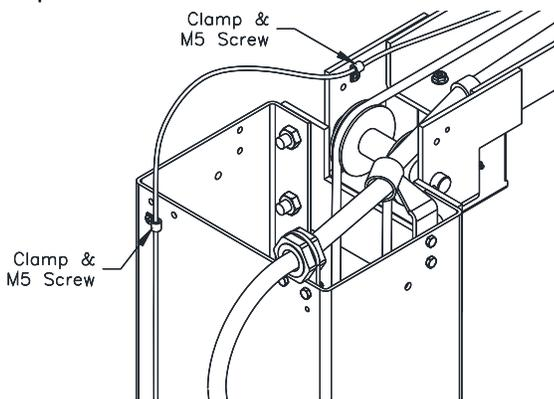

Fig. 9 – Lock Cable Routing
- 30) Secure Lock Release Cable at the top of each column extension as shown in Fig. 9. Lock Release Cable should be routed on the opposite side of the Overhead Beam as the Idler Hose to prevent interference.